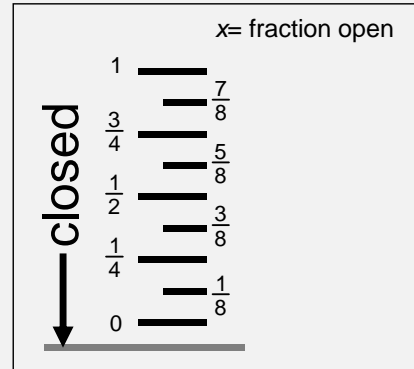

Figure 1: Schematic of the measuring scale on FV-03. The pointer moves up and down the scale depending on the fraction open of the valve.
- Adjust the stem position of FV-03 with the appropriate amount of air for the desired setting. To do this, adjust the position of the air pressure regulator that is installed in the air line to FV-03. **Note: air-pressure regulators are not “righty-tighty”; rather, when you right-hand advance regulators, more air flows.** Using a step ladder and the three point of contact rule, note the valve stem position for FV-03 (e.g. 5.5/8ths open). Note: The stem position of FV-03 is divided into 8 segments between 8/8ths closed and 0/8ths closed (Figure 1). Each notch corresponds to 1/8th the distance. The longer notches are the 1/4 markings